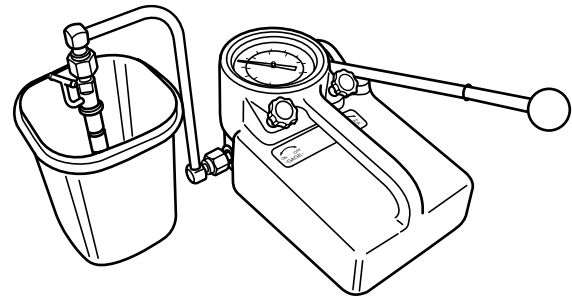

Figure 7-48
4. Pump the operating lever of the tester slowly, observing the pressure reading at the point where the fuel injector begins spraying fuel (Figure 7-48).